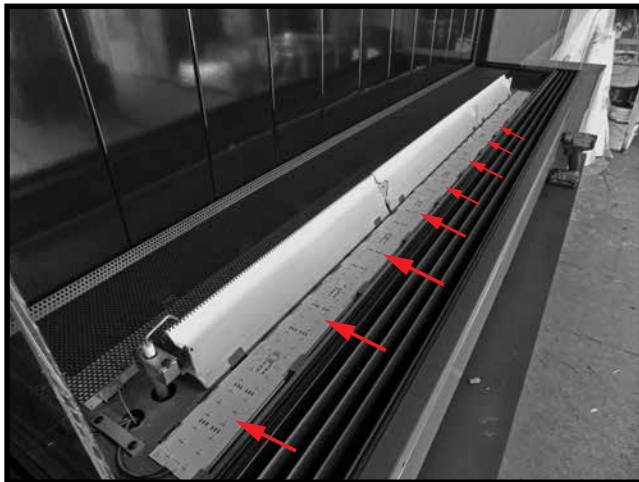
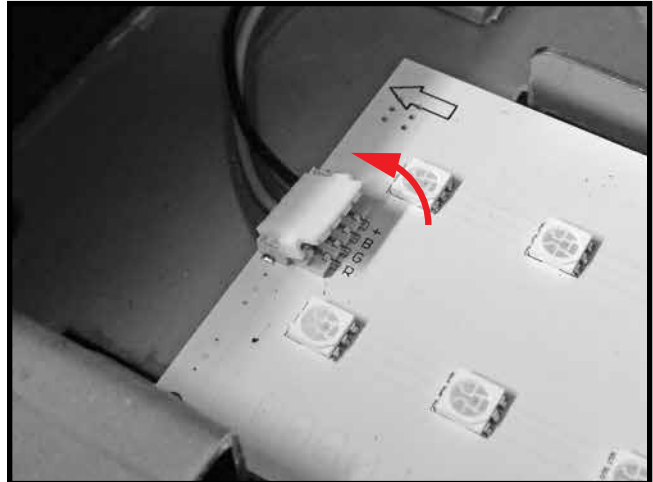

Figure 51: LED individual sections joined together.
Figure 52: LED connector.
There are two rows of LED lights in this fire feature, one row on each side of the burner. Each row of LED lights is made of individual LED sections which can be joined together using bridge connectors to achieve the desired row length (Figure 51). Each row of sections also has its own main electrical connector (Figure 52).
9. Reconnect the main electrical connector as shown in (Figure 52).